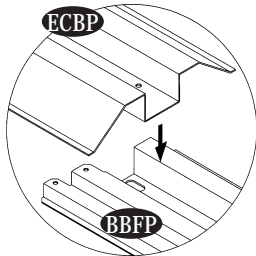

Fig.1
10. Place the entrance taper channel (ECBP) on top of the (BBFP). Secure with (S1) screws to the foundation. See fig. 1 & 2.